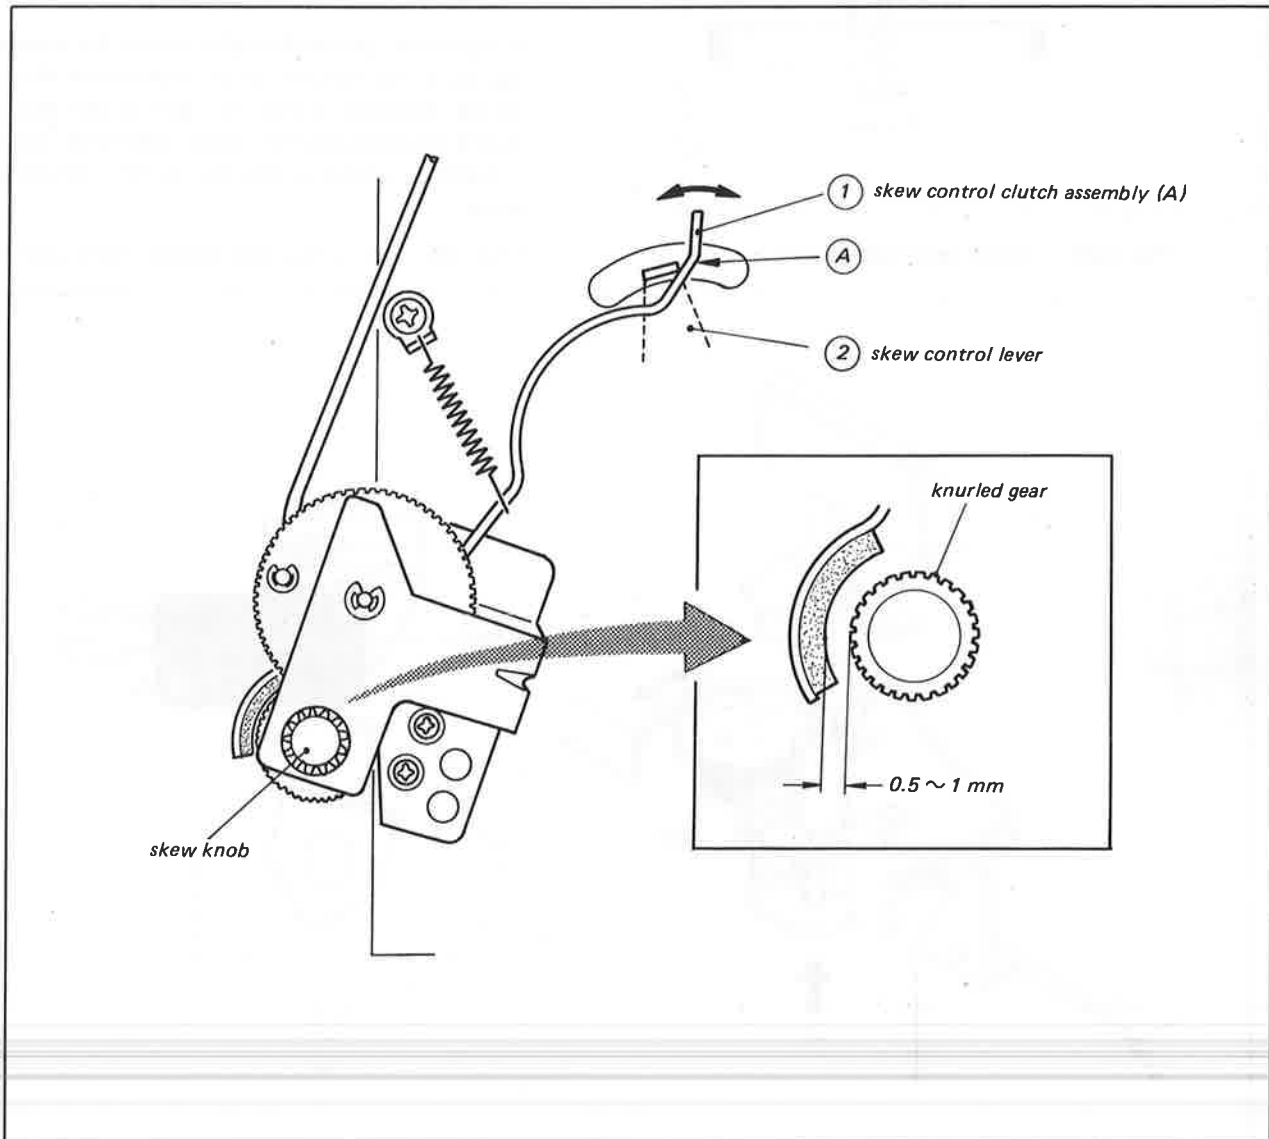

Fig. 4-26. Skew control mechanism adjustment
2. Check that the Skew Control Lever (② in Fig. 4-26) stops Skew Control Clutch Assembly (① in Fig. 4-26) when the RECORD button is pressed and that the SKEW control knob returns to its normal position.